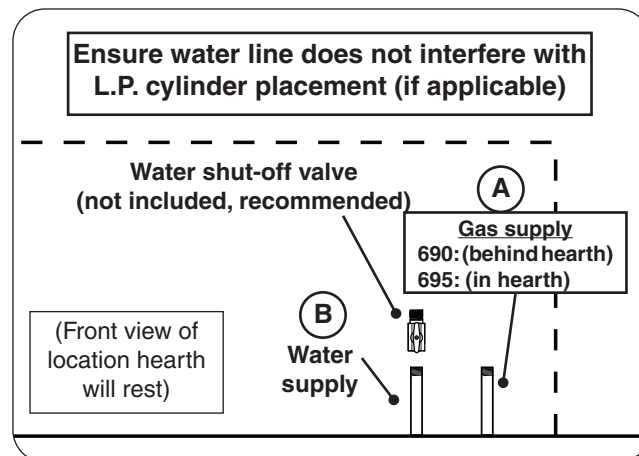

Fig. 22-1 Route gas and water supply
1. Ensure the gas supply is properly routed into the area that the unit will rest over (see Fig. 22-1, A).
1. Plumb the water supply into the area that the hearth will rest over (see Fig. 22-1, B).
Note: It is recommended that a water shut-off valve (not included) be attached to the water supply line. It can be installed remotely or at the end of the water supply line. See Fig. 22-1, B for an example.